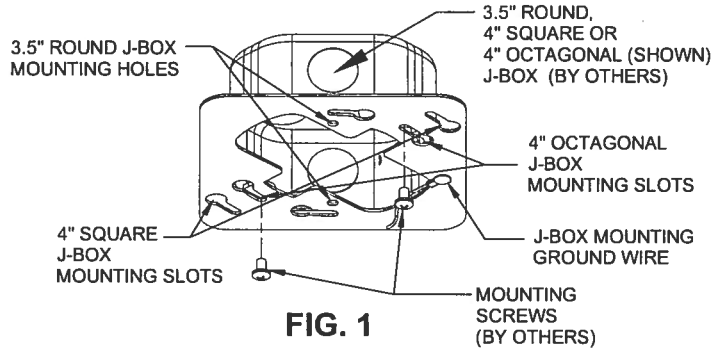

FIG. 1
1. Loosen MOUNTING SCREWS from 4" square and 4" octagonal J-Box. Fully removed MOUNTING SCREWS from 3.5" J-Box. (FIG.1)
2. Align and secure J-BOX MOUNTING PLATE to J-BOX using MOUNTING SCREWS. Face J-BOX MOUNTING GROUND WIRE downward. Make sure J-BOX MOUNTING PLATE is firmly against the ceiling. Do not overtighten MOUNTING SCREWS, this could distort the J-BOX MOUNTING PLATE. (FIG. 1)